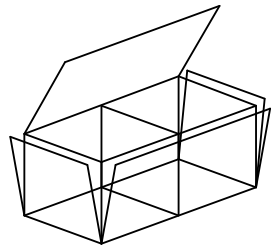

FIGURE 2
2. FOLD THE SIDE AND END PANELS INTO THE UPRIGHT POSITION TO FORM A RECTANGULAR BOX. JOIN THE TOP CORNERS OF THE BOX TOGETHER WITH THE THICK SELVEDGE WIRE STICKING OUT FROM THE CORNERS OF EACH PANEL. THIS ENSURES THAT THE TOPS OF ALL FOUR SIDES OF THE BOX ARE LEVEL (FIGURE 2).